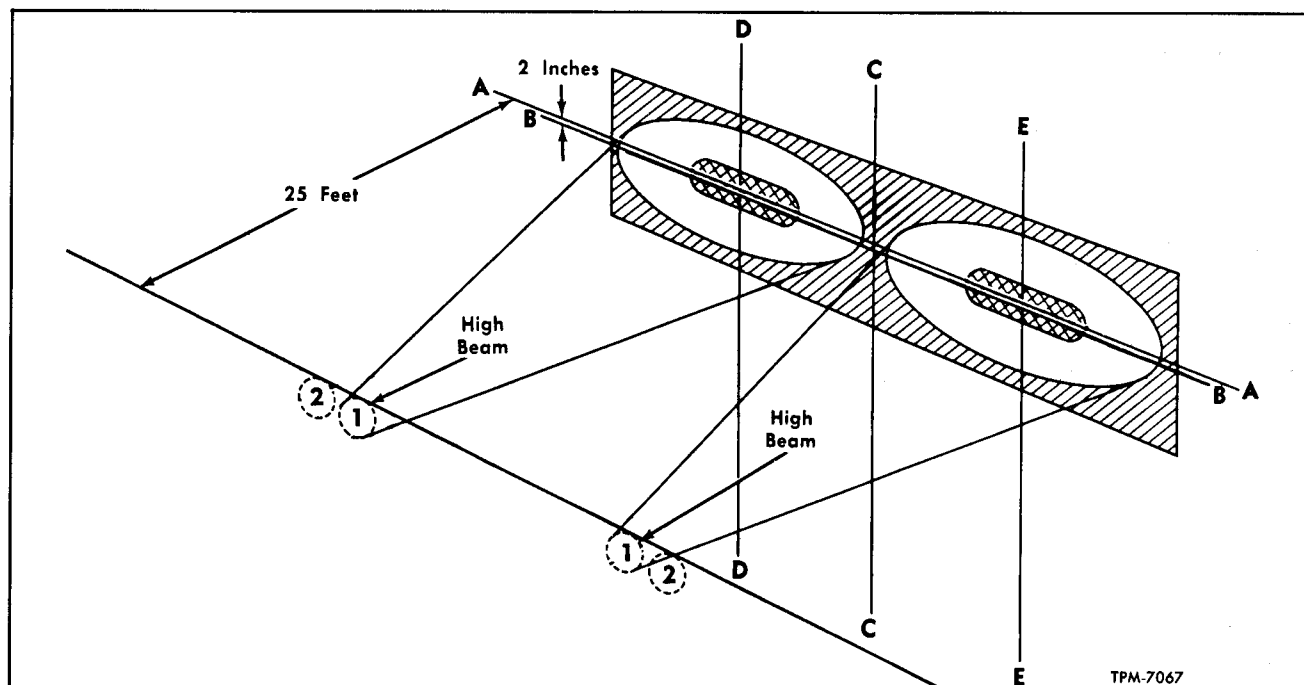
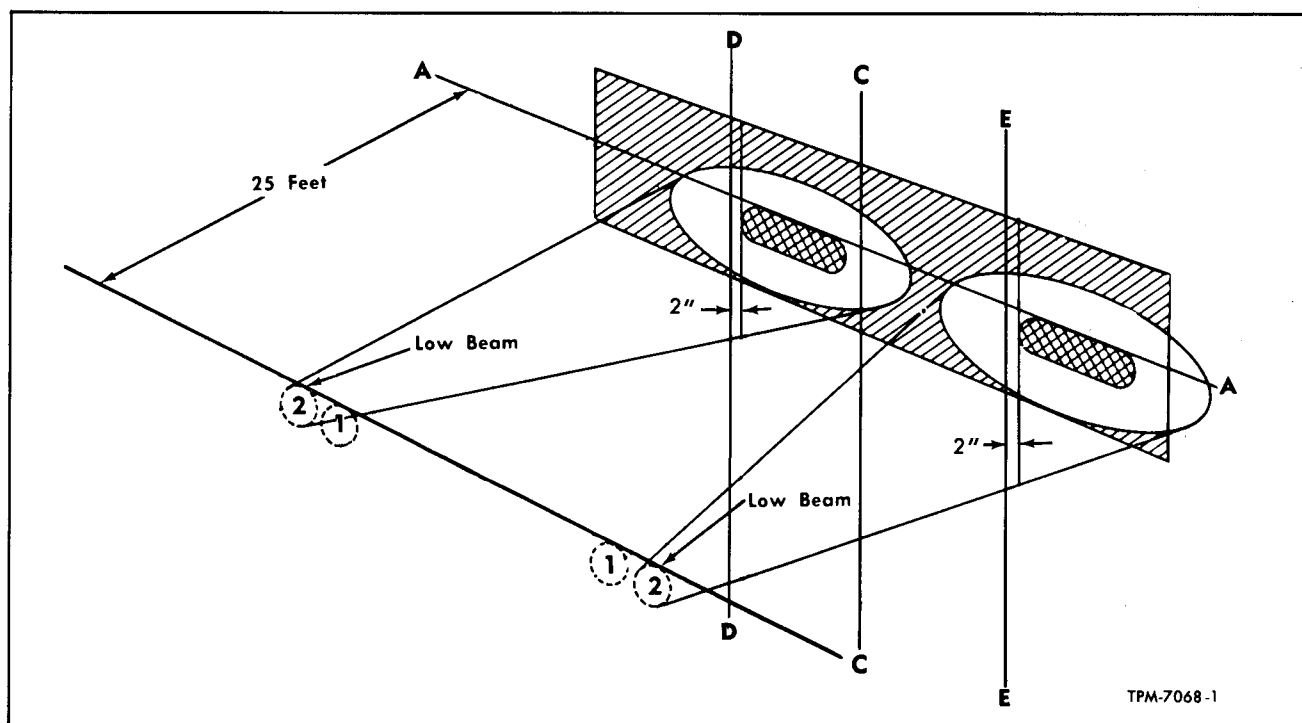

Figure 2—Inner Light (High Beam) Aiming Chart
Figure 3—Outer Light (Low Beam) Aiming Chart
Inner (High-Beam) Lights (Fig. 2)
8. Remove paper or panel from vertical surface to permit drawing aiming lines for outer lights. NOTE: Lines A-A and C-C in figure 2 are in same location for figure 3 and can be located
Outer (Low Beam) Lights (Fig. 3)